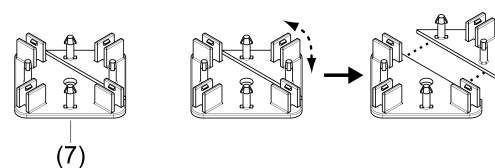

Figure 4: Separating connectors
- Fasten the connectors (7) to the installation substrate using suitable screws.
- Push the LED lamps with the locking noses (2) into the connectors (7) until they noticeably engage.
- Additionally fix the LED lamps to the external corner points of the grid using the installation drawing (3).
- i For mounting the LED lamps on the edge of the grid, the connectors can be separated at a predetermined breaking point (Figure 4).